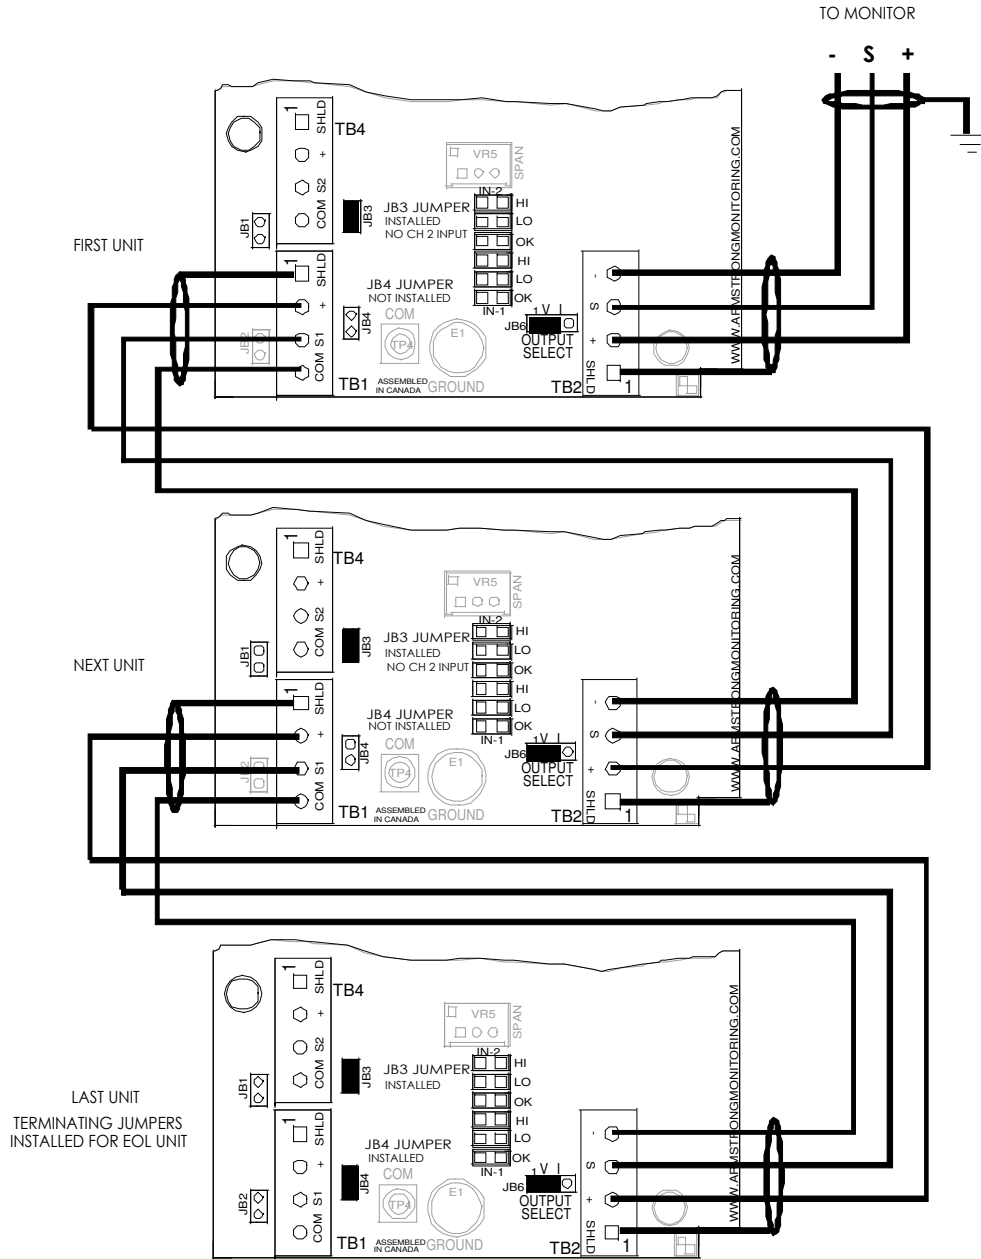

FIGURE 3: Detail wiring of Sensor Modules.
To gain access to the terminal blocks, remove the four (4) screws and front panel from the housing. This will expose the field wiring terminals. The sensor module output (-, S, +, SHLD) terminal block, connects to the input terminal block of the previous unit, or to the sensor/transmitter terminal block in the monitor, as shown in Figure 3.
Each sensor module is designed to interconnect to other units in series and/or branching configurations. Various typical configurations are shown in Figure 3, illustrating the versatility of this type of system. Because each unit is pre-calibrated, additional units can be added to a system without altering the monitor settings. When multiple units are interconnected, either one or both jumpers need to be removed (refer to section 4.2.2 TERMINATION and Figure 3).
For each unused input terminal block, the corresponding jumper MUST be left installed (as shown in Figure 3). Failure to do so may cause the system to malfunction. Termination detailed as follows: